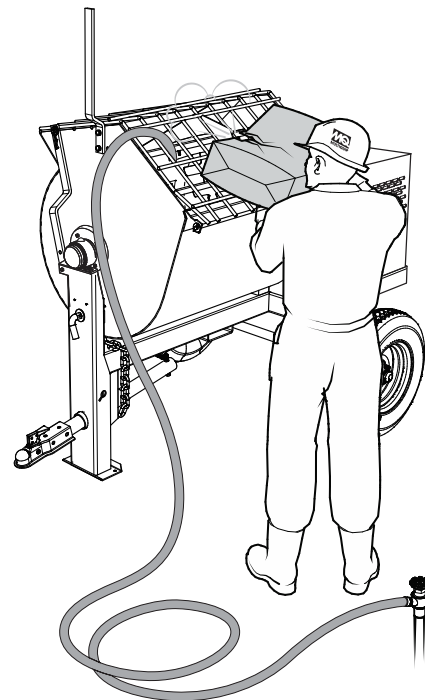

Figure 29. Fill Mixing Drum
4. The paddle shaft inside the drum should be rotating at this time. Add a small amount of water to the mixing drum (Figure 29).
5. Lift the mixing bag compound onto the steel safety grate over the **bag cutter** and let the contents fall into the drum (Figure 29). Add more water if desired and mix the compound to the desired consistency.